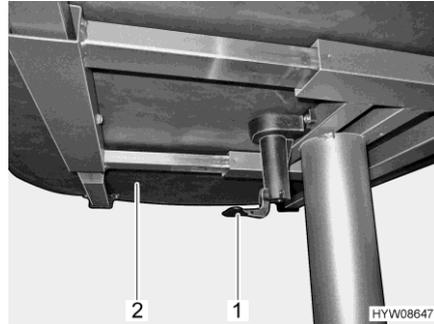

Fig. 56 Lever for moving the table top
- Pull or press down the lever (Fig. 56,1).
- Move the table top (Fig. 56,2) to the desired position.